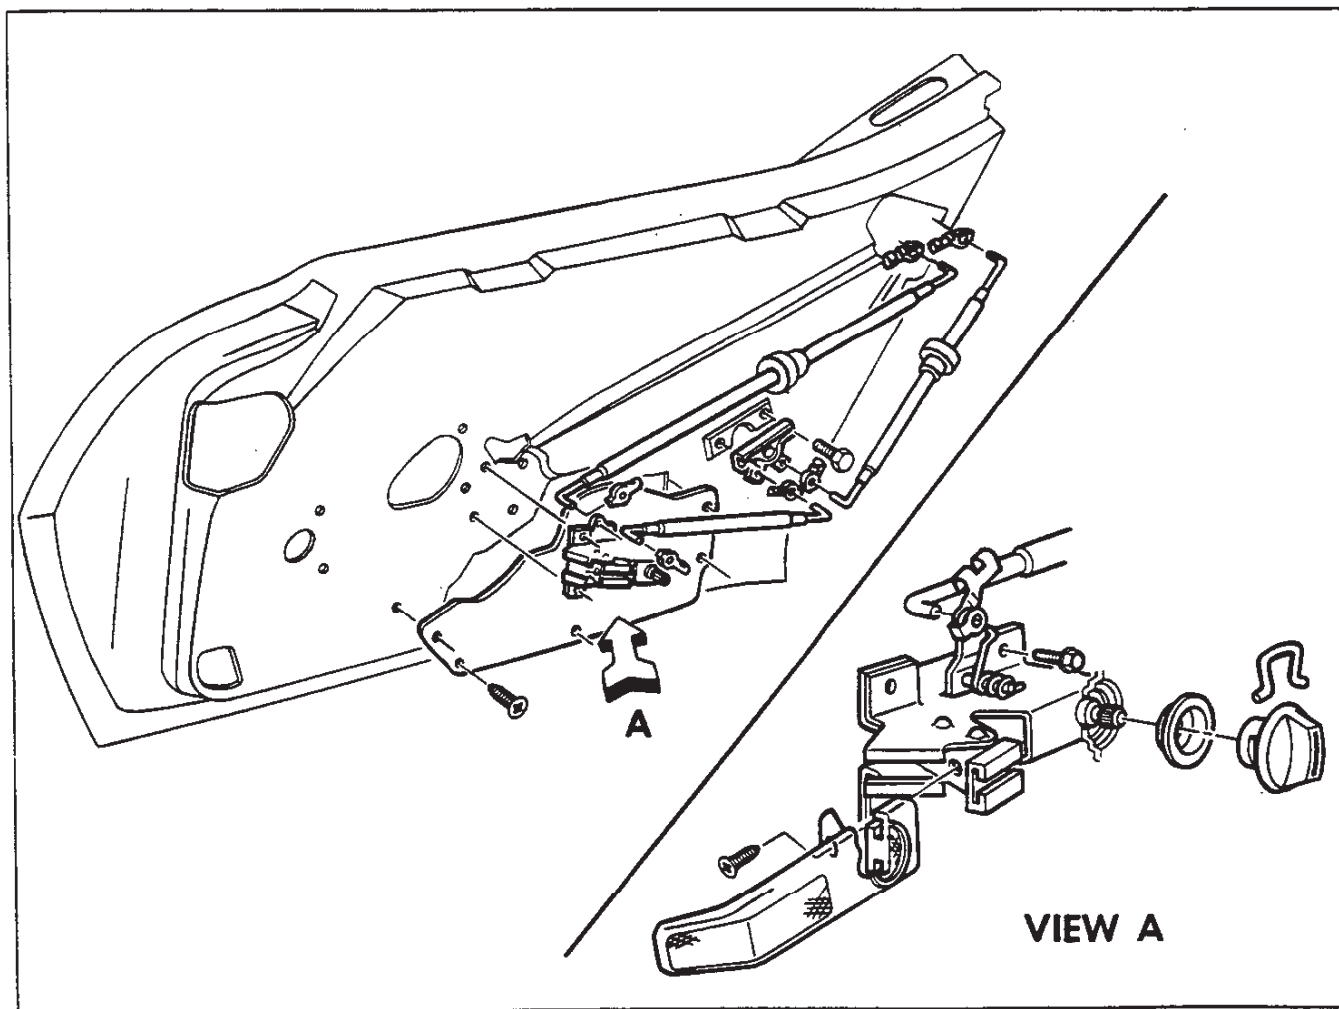

Fig. 25—Door Lock and Remote Control
If replacement glass is necessary, disassemble two (2) pads and fasteners, and frame assembly by removing three (3) mounting bolts through glass (fig. 25). Mount frame assembly and pads onto new glass before installation into door.